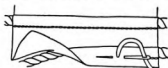

FIGURE 114
**30. Cordings.** *Cord Tuck* (Figure 114).—Mark with a colored thread the desired line